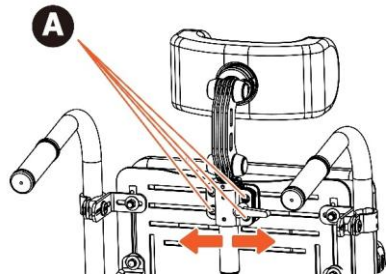

Figure 9.30
Loosen the four bolts (A) on the headrest bracket, then adjust the headrest left and right to the suitable position. Last, remount the four bolts (A) (See Figure 9.30).